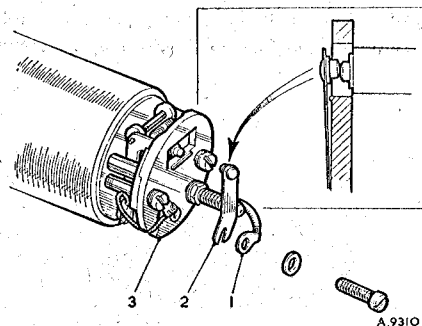

Fig. 11. Setting the correct relative position of blade and rocker contact points
26. Fit the contact blade (2) (Fig. 11) and coil lead (1) to the pedestal (3) with the 5 B.A. washer and screw. When a condenser is fitted the tag on it is placed under the coil lead tag.
27. Adjust the contact blade so that the contact points on it are a little above the contact points on the rocker when the points are closed (see Fig. 11), also that when the contact points make or break, one pair of points wipes over the centre line of the other in a symmetrical manner. As the contact blade is provided with a slot for the attachment screw, some degree of adjustment is possible.